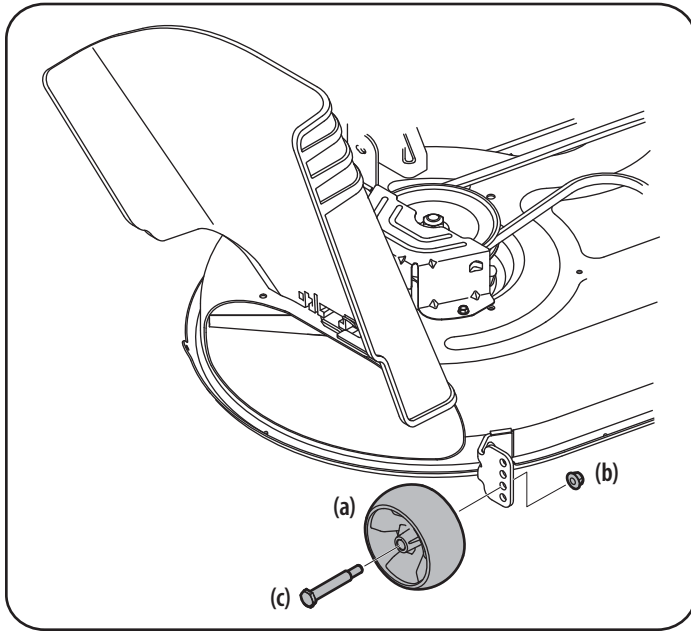

Figure 11
- b. Remove the front and rear deck gauge wheels (a) by removing the lock nuts (b) and shoulder screws (c) which secure them to the deck. See Figure 11.